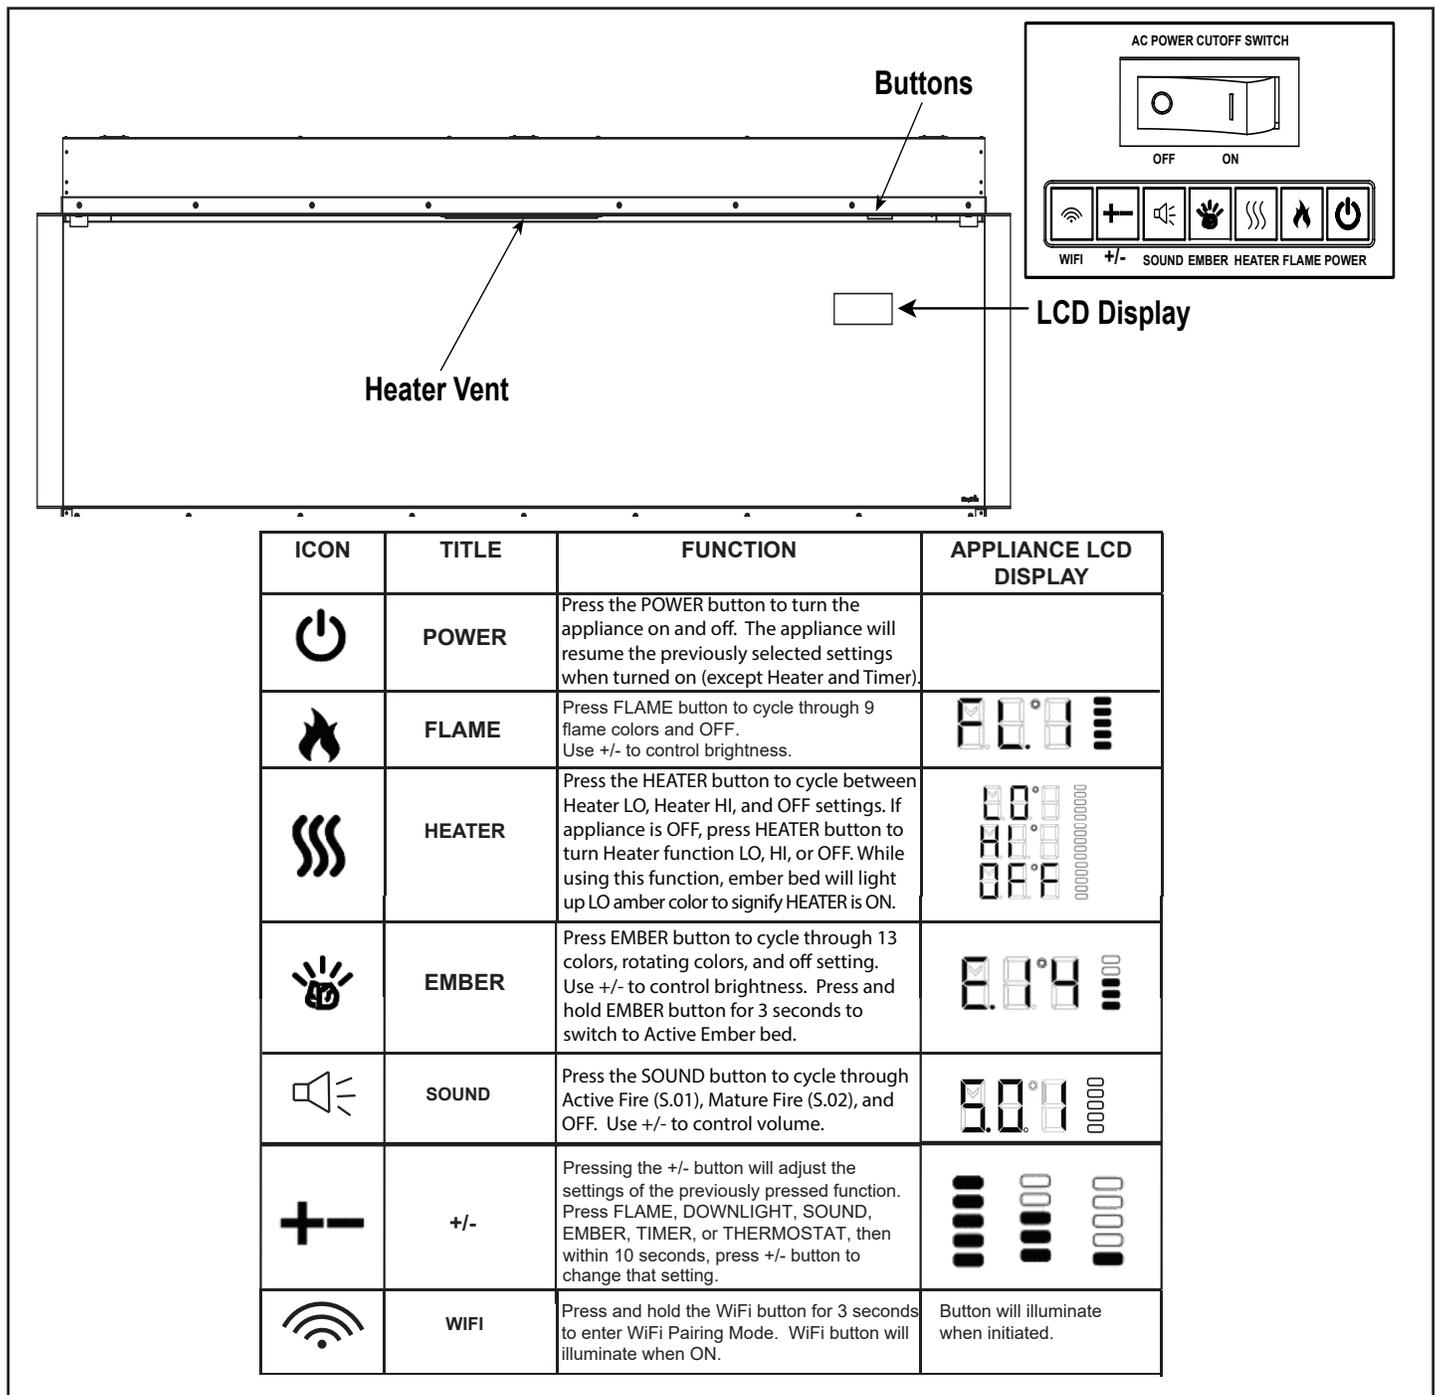

Figure 5.1 Manual Operating Switches and Indicator Lights
Once the circuit breaker is switched ON, the AC power cutoff switch can be switched to the 'ON' position. A beep should be heard when power is first applied. See Figure 5.1.
- The remote uses radio frequency so it does not have a specific field-of-view requirement. See Figure 5.1.